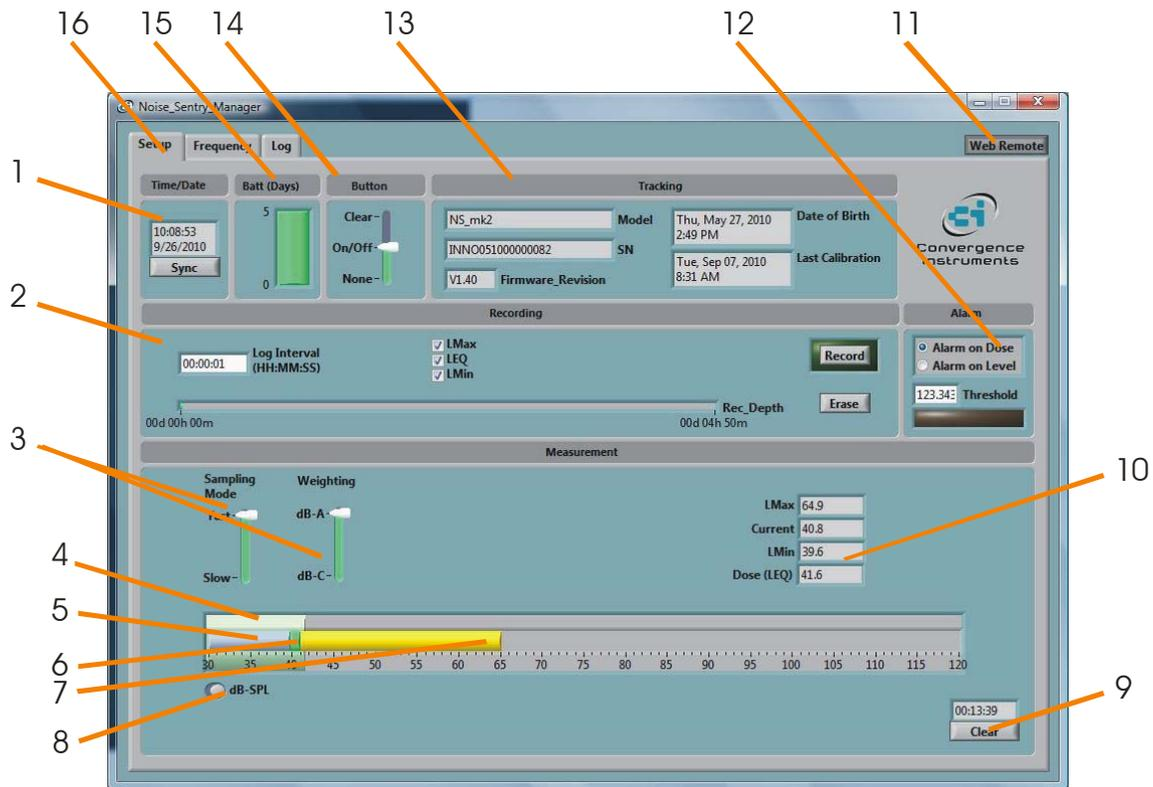

Figure 3: Noise_Sentry_Manager Setup tab
- 5 Go into *Start\All Programs\Noise Sentry*, and run *Noise_Sentry_Manager.exe*. The front-panel described in figure 3 appears, and the application tries to connect to the unit. If it fails to find the unit it indicates *No Device Found* and closes. If this is the case see the *Troubleshooting* section. Otherwise the application switches-on the *Noise Sentry* and starts communicating with it.
4. The front-panel described in figure 3 appears, and the application tries to connect to the unit. If it fails to find the unit it indicates *No Device Found* and closes. If this is the case see the
- **The Setup Tab:** Is used to setup the instrument and read current levels and ongoing statistics (see figure 3).
The setup tab is seen in figure 3. The setup tab is divided into seven fields.